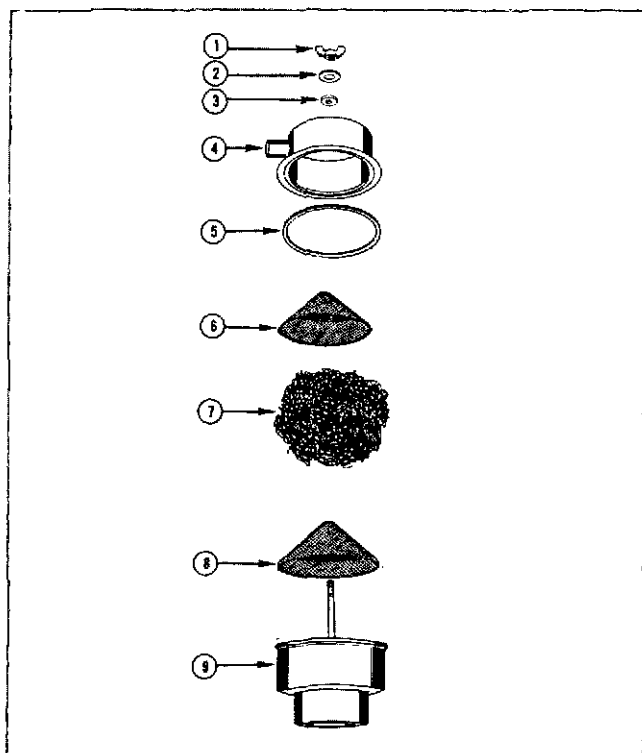

Fig. 5-22, V40310. Crankcase breather — Mesh Type
1. Remove wing nut (1, Fig. 5-22), flatwasher (2) and rubber washer (3) securing cover (4) and element assembly to breather.
2. *Lift off cover, gasket (5), upper screen (6), mesh element (7) and lower screen (8) from body (9).*
1. Position lower screen (8, Fig. 5-22) into breather body (9).
2. Position new or cleaned element (7) and upper screen (6) over center screw in breather body.
3. Place cover (4) on body with gasket (5) in position.
4. Install rubber washer (3), flatwasher (2) and wing nut (1). Tighten securely.